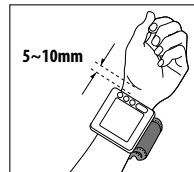

Fig.4
2. Place the cuff on your wrist so that its edge is spaced by 5-10 mm off the palm end. Place the meter on the center of your wrist (Fig.4).